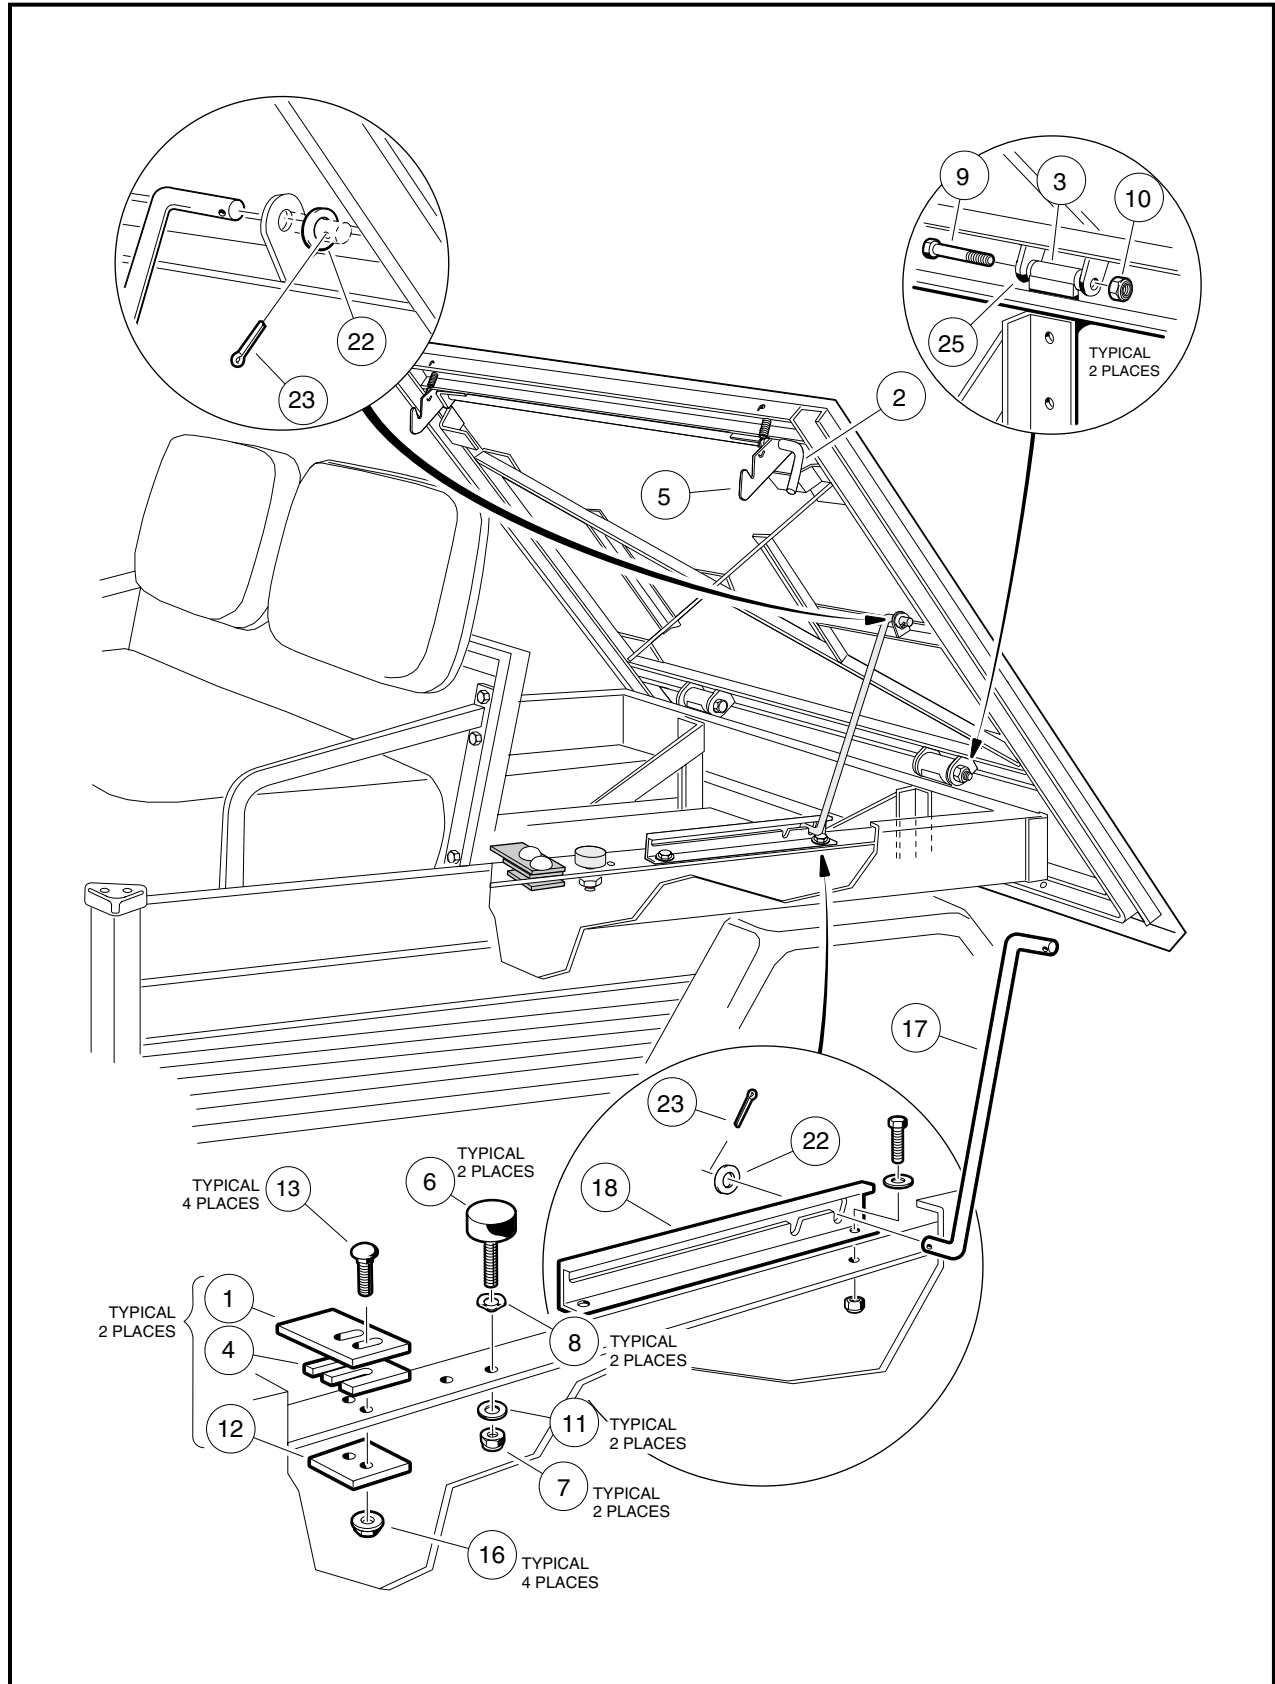

Figure 4-2 Tilt Bed – Turf 1, 2, Carryall 1, 2, and 2 Plus
1. **Turf 2, Carryall 2, and 2 Plus only:** Raise bed and secure prop rod (17) in prop rod track (18). Hold bed securely in an upright position. Remove cotter pin (23) and flat washer (22) from top end of prop rod where prop rod attaches to bed. Remove prop rod (17) from bed and place prop rod between prop rod track (18) and rear body panel. Lower bed onto vehicle frame (**Figure 4-2, Page 4-6**).
2. Remove two lock nuts (10) from left and right tilt bed hinge assemblies (3).
3. Apply slight upward pressure (by hand) on the rear of the bed to relieve pressure on the hinges, and remove the hinge bolts (9) from the hinge assemblies.
4. Raise rear edge of bed approximately 6 inches (15.2 cm) and pull bed assembly toward rear of vehicle approximately 3 inches (7.6 cm) to release bed latch assembly (2) from latch plate (1).
1. Hold bed at a slight angle (front of bed lower than rear of bed) to vehicle and place front edge of bed onto vehicle frame. Bed latches (5) should engage with latch plates (1) (**Figure 4-2, Page 4-6**).
2. Lower edge of bed onto vehicle and align hinge brackets (3) with bed hinge (25).
3. Start the bolts (9) into left and right hinge assemblies (3 and 25). It may be necessary to use an alignment tool to align holes in hinge bracket with steel bushing in hinge assembly.
5. Install a nylon lock nut (10) on each bolt (9) and tighten to 15 ft-lb (21 N·m).
6. **Turf 2, Carryall 2, and 2 Plus only:** Lift bed and place the prop rod (17) in bed mounting hole. Install a 3/8 inch flat washer (22) and a new cotter pin (23) on prop rod (**Figure 4-2, Page 4-6**).